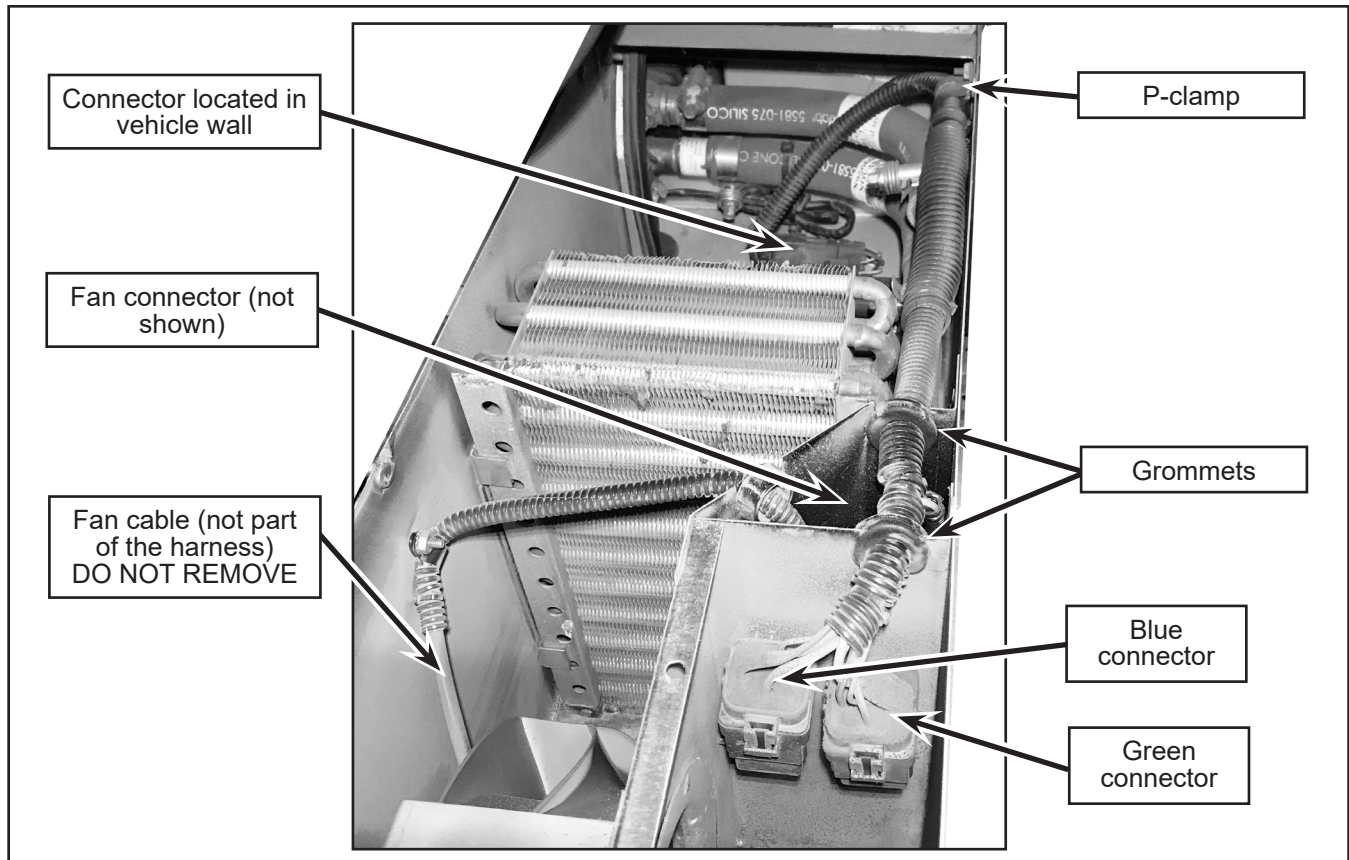

Figure 4 - Remove Harness from Heater Box
- 1.6. Once the covers are removed, for each heater box, disconnect the four connectors, cut the cable ties and remove the P-clamp in order to remove the harness. Keep the P-clamp, the two grommets and discard the harness (Figure 4).